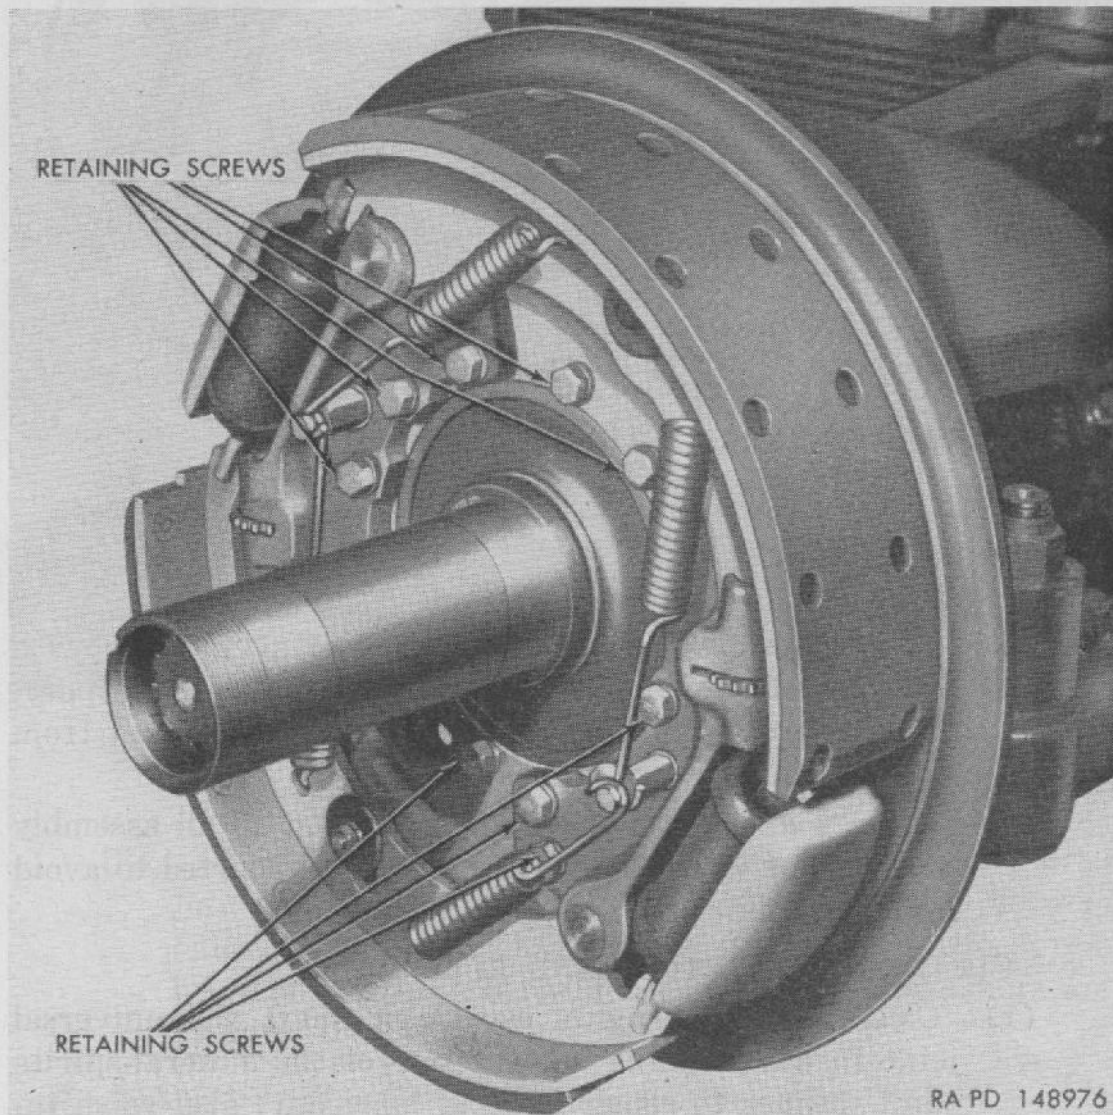

Figure 116. Brake backing plate and shoe assembly installed.
- (4) *Remove brake backing plate and shoe assembly.* Remove 12 retaining screws and lock washers (fig. 116) attaching brake backing plate to steering knuckle.
- (3) *Install backing plate and shoe assembly.* Carefully install new gasket to steering knuckle. Swing backing plate and shoe assembly over end of steering knuckle and into place against steering knuckle, being sure plate is properly located as noted at time of removal (fig. 116). Aline bolt holes in plate with those in steering knuckle and install 12 retaining screws and lock washers. Tighten screws. Install brake flexible hose shield at top of steering-knuckle-arm studs, using three cap screws and lock washers.
- (4) *Install hub and drum.* Install wheel hub and brake drum assembly (par. 245) and adjust hub bearings (par. 244).
- (5) *Install drive flange.* Install axle drive flange (par. 198b).
- (6) *Install wheel.* Install wheel and tire on hub, install wheel stud nuts, and tighten. Lower jacks and remove from under vehicle.